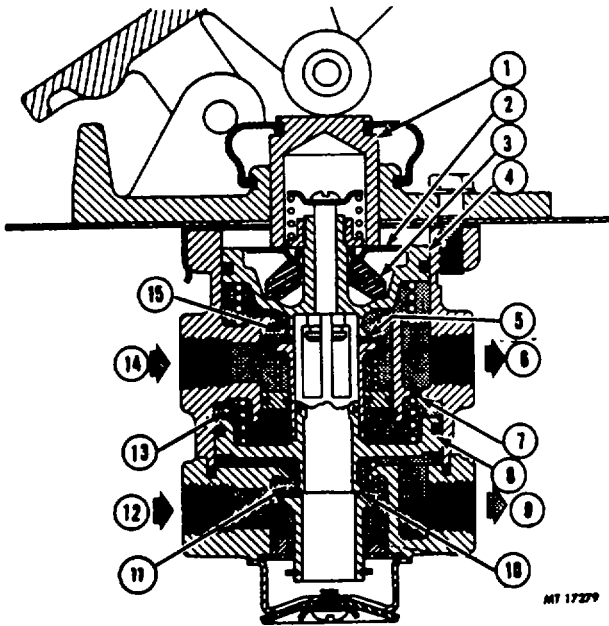

Fig. 3 Brake Valve Applied - Normal Operation
**Applying Normal Operation - Primary Circuit Portion of Brake Valve (Fig. 3)**
**Applying Normal Operation - Secondary Circuit Portion of Brake Valve (Fig. 3)**